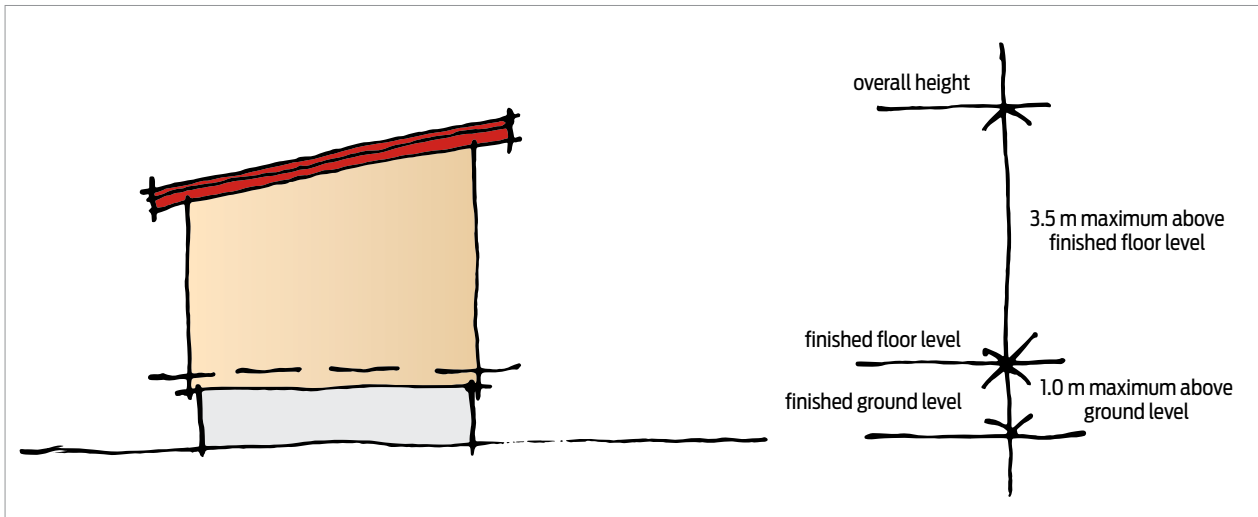

Figure 1. Height restrictions for exempt sleepouts.
- must have a floor level no more than 1 metre above the ground, and the highest point of the structure can be no more than 3.5 metres above the floor level [Figure 1]